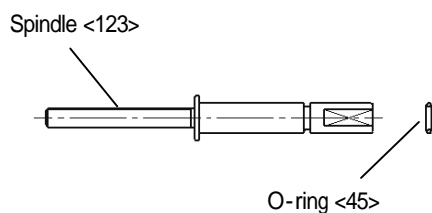

Fig.26
(3) Lubricate the spindle and the O-ring with Kyodo Oil MULTEMP AC-J or the equivalent, and assemble them together (Fig.26). Contact KITZ Corporation for advice, if this lubricant is not available.